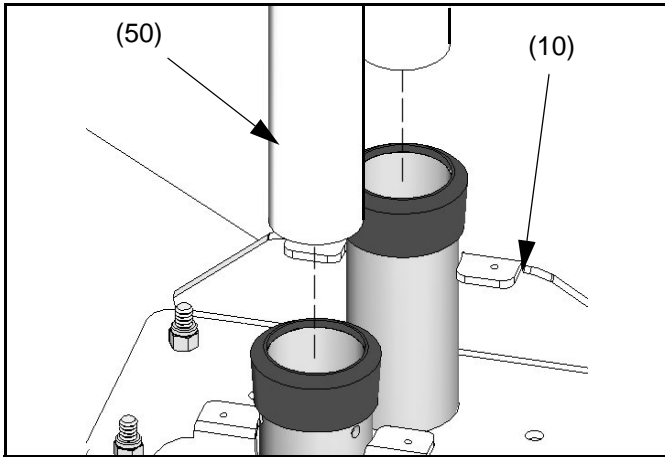

Figure 5: Install Tube(s)
1. Install two Tubes (50) in Base (10) (see figure 5).